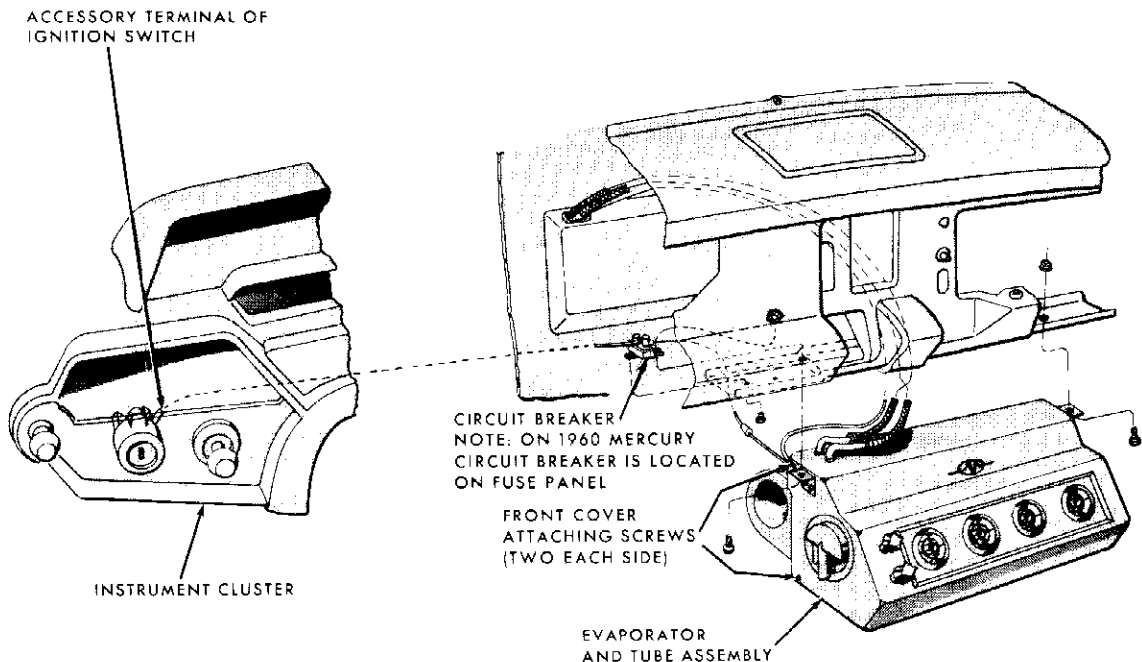

Fig. 6B-2—Evaporator Installation—(61MT-8803)
12. Remove the two nuts and bolts securing the evaporator mounting brackets to the instrument panel. Remove the two mounting brackets, one from each side of the evaporator case assembly. (See Figure 6B-2).
14. Disconnect the assembly feed wire at the circuit breaker located under the dash panel. (See figure 6B-2.)